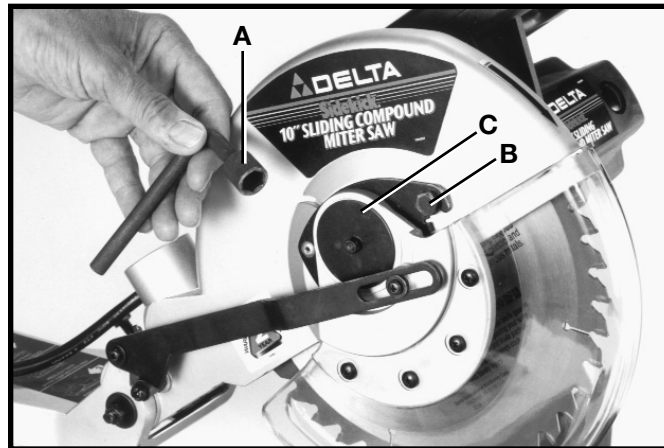

Fig. 87
2. Using the special wrench (A) Fig. 87, supplied, loosen screw (B) to free arbor cover (C).
8. Rotate arbor cover (C) Fig. 87, until hook in cover is engaged under screw (B) and tighten screw (B) which was loosened in **STEP 2.**